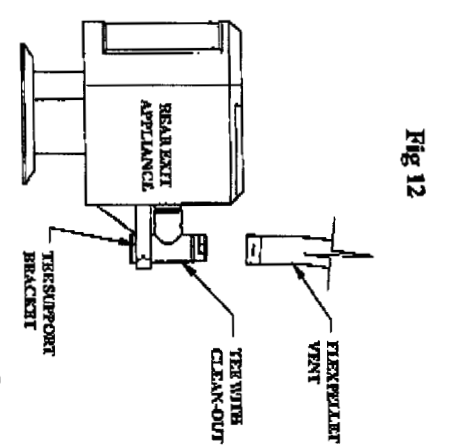

Fig 12
9. If a Tee is necessary to make the connection, as shown in Figure 12, the Tee has a removable Clean Out Adapter on its base to enable cleaning. The Tee Support Bracket to hold the Tee to the rear of the appliance is mandatory. If it is desired to mount the Tee Support to the rear of the stove, obtain approval from the manufacturer of the stove before drilling, tapping, or performing any other alterations to the appliance.